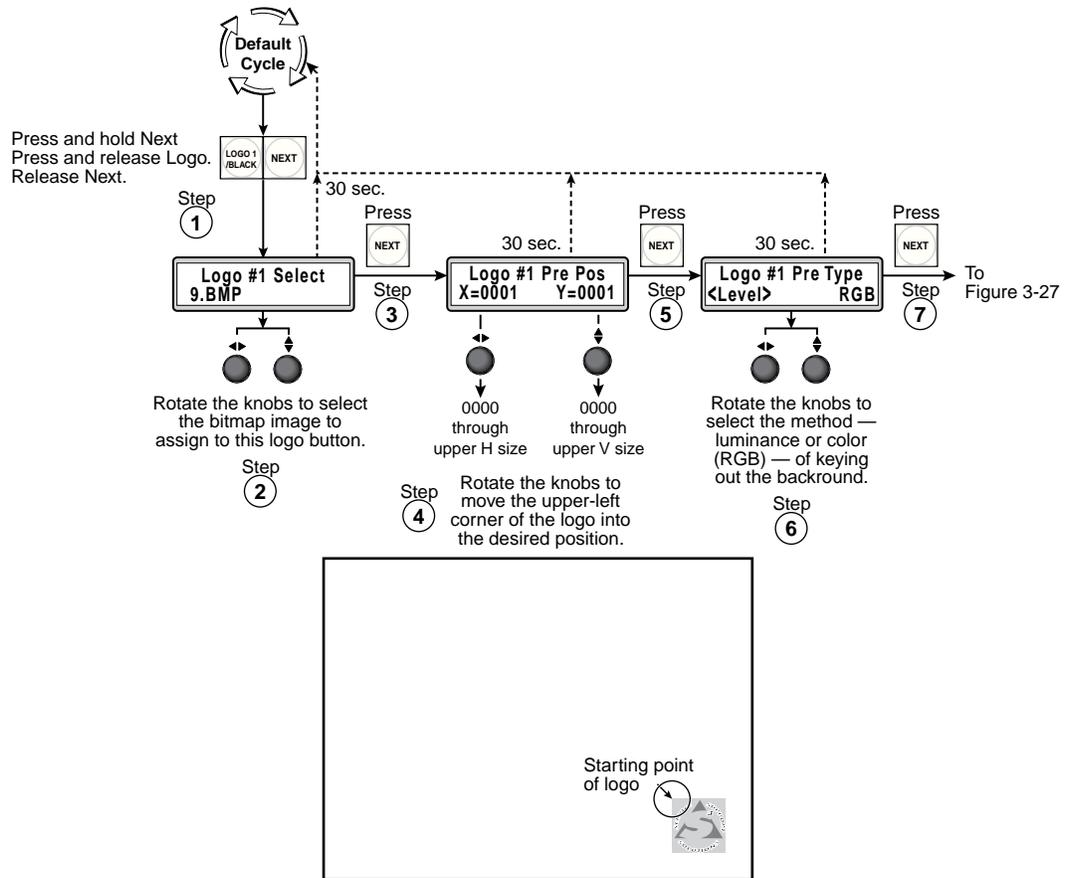

Figure 3-26 — Configuring a logo
1. Press and **hold** the Next button (figure 3-26). While **holding** Next, press and release the Logo 1/Black or Logo 2/Black button (the logo to which you want to assign a bitmap). Release the Next button.